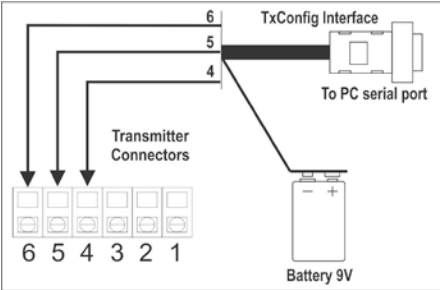
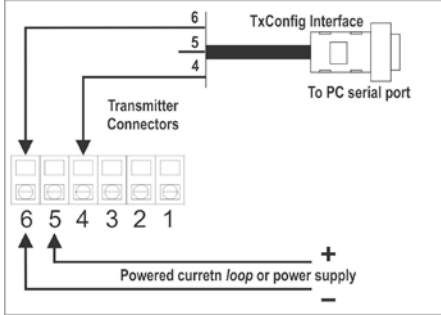

Fig. 1 – TxConfig Interface connections model RS232
Fig. 4 – TxConfig Interface connections - Powered current loop or power supply
The TxConfig interface connects the transmitter to the PC, as shown in Fig. 1 and 2. There are two types of interface: TxConfig-RS232 and TxConfig-USB.
- The TxConfig-RS232 interface, however, requires an auxiliary supply for guarantee reliable communication with the computer. An external 9V battery can be used for this purpose (Fig. 1). An alternative is to configure the transmitter while it is in operation; this way, the needed energy is supplied by the current loop. See Fig. 4.